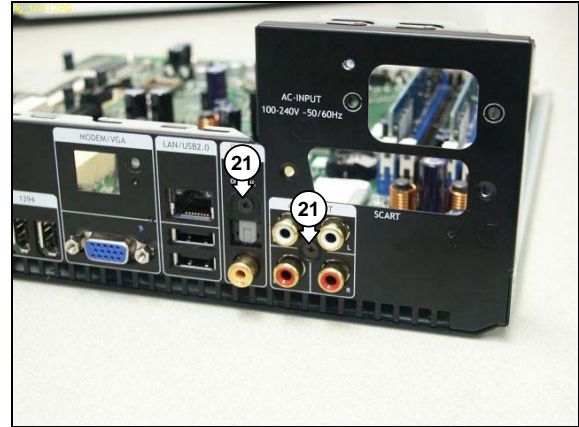

Figure 12.16-13
10. Remove the 2 mounting screws (21) from the motherboard tray back plate. See Figure 12.16-13.